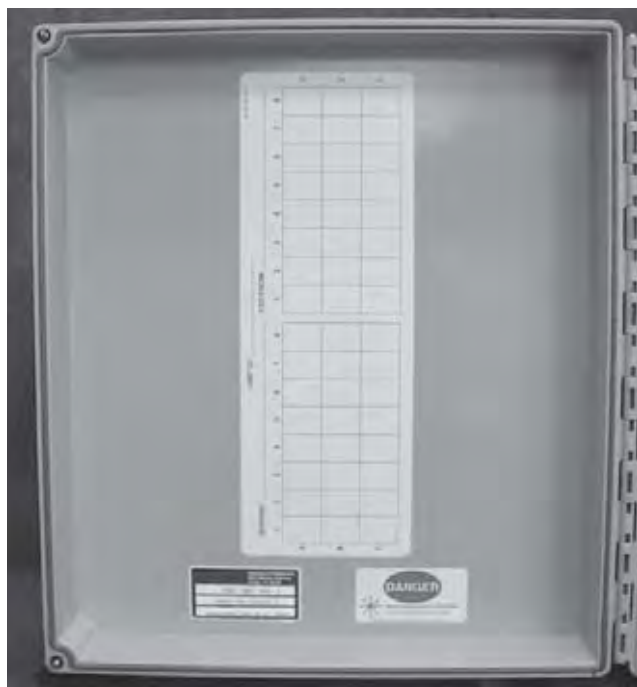

Figure 18
**11.5** As you complete a splice, label the connector end of the pigtail with its port identifier. Record information appropriately on the record label inside the front door (Figure 18).
**12.7** Label the connector end of the pigtail with its port identifier. Record information appropriately on the record label inside the front door (Figure 18).